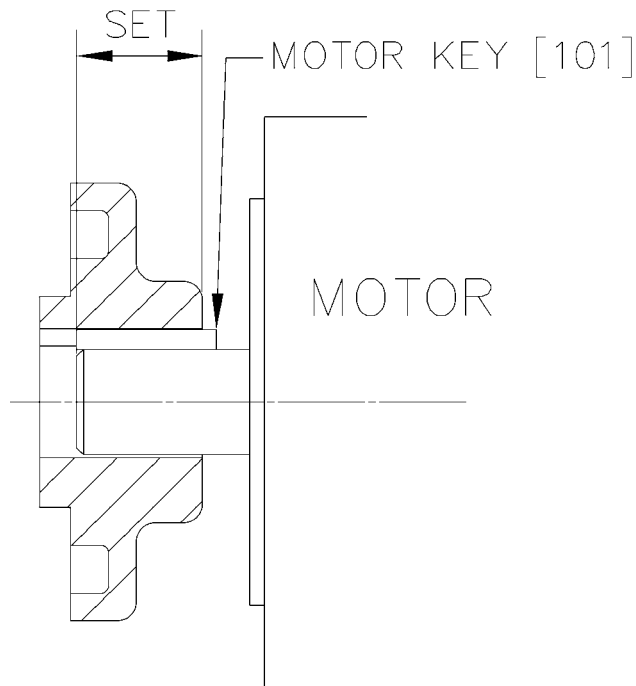

Figure 12. Motor Coupling Setting
3. Measure and mark the setting distance on the motor shaft as per Table 5, page 30. Install the flexible coupling hub with motor key [101] on the motor shaft as per the marking (See Table 5 / Table 6 below and Figure 12). Tighten the hub setscrews to the torque value shown in the APPENDIX, Page 96. Turn the motor shaft by hand to check that the shaft rotates freely.